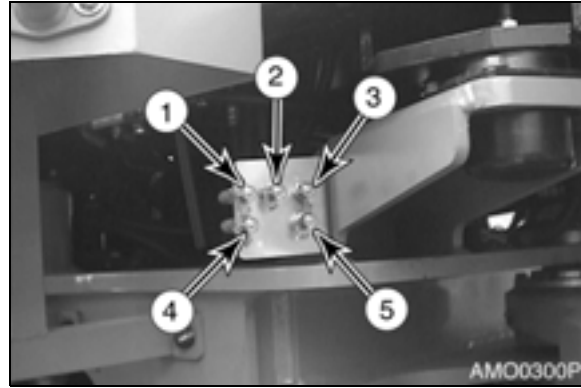

Figure 93
Hydraulic pressure for most systems can be check by using the remote test ports shown in (Figure 93).
1. Attach gauge to port (1, Figure 93).
1. Attach gauge to port (2, Figure 93).
1. Attach gauge to port (3, Figure 93).
1. Attach gauge to port (4, Figure 93)
1. Attach gauge to port (5, Figure 93).